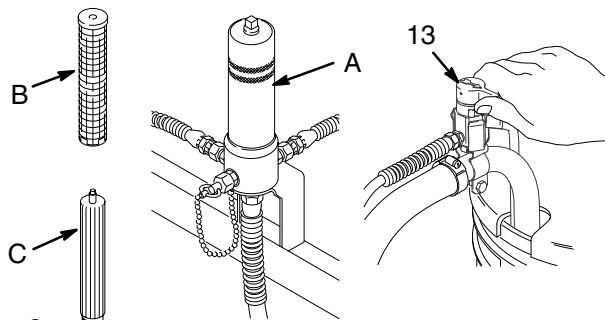

Fig. 8
2. Remove the filter bowl (A) and screen (B); see manual 307-273. Install the bowl and support (C), without the screen, to flush it. Clean the screen separately. See Fig. 8.
3. Close the pressure drain valve (13).